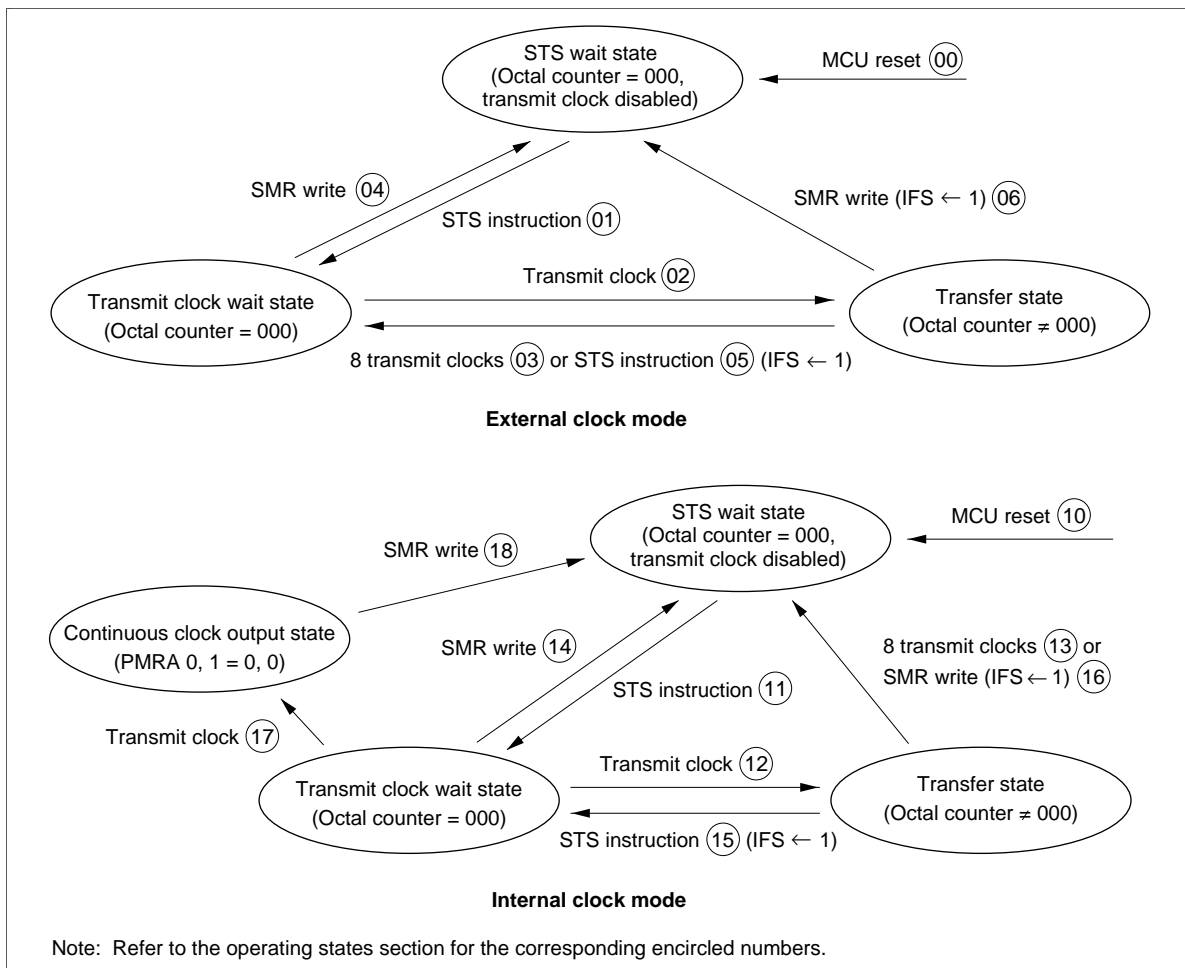

Figure 42 Serial Interface State Transitions
Serial Interface Operating States: The serial interface has the following operating states shown in figure 42, both in external clock mode and internal clock mode.
- STS wait state: The serial interface is put into the STS wait state by an MCU reset (00, 10 in figure 42). While in this state, the serial interface is initialized and does not operate, even if a transmit clock is provided. If an STS instruction is executed while in this state (01, 11), the serial interface transfers to the transmit clock wait state.
- Transmit clock wait state: Transmit clock wait state period starts from when an STS instruction is executed until the first transmit clock falling edge. While in the transmit clock wait state, if the transmit clock is input (02, 12), the octal counter is incremented by the transmit clock, the data in the serial data register shifts, and the serial interface enters the transfer state. However, note that if continuous clock output mode is selected in internal clock mode, the serial interface does not enter transfer state but enters continuous clock output state (17).